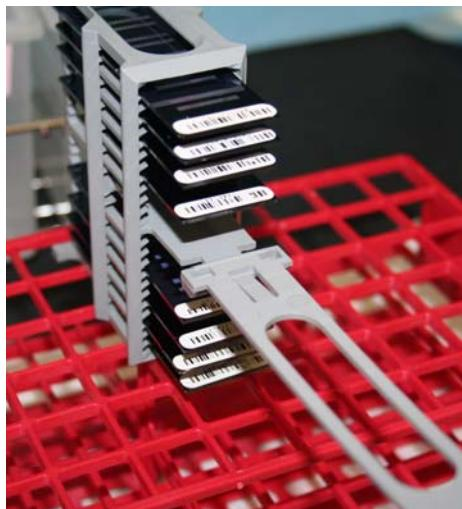

Figure 63 Staining Rack in Correct Orientation
16. Remove the staining rack in one smooth, rapid motion and place it directly on the prepared tube rack, making sure the barcodes **face up** and the locking arms and tab **face down** (Figure 63).